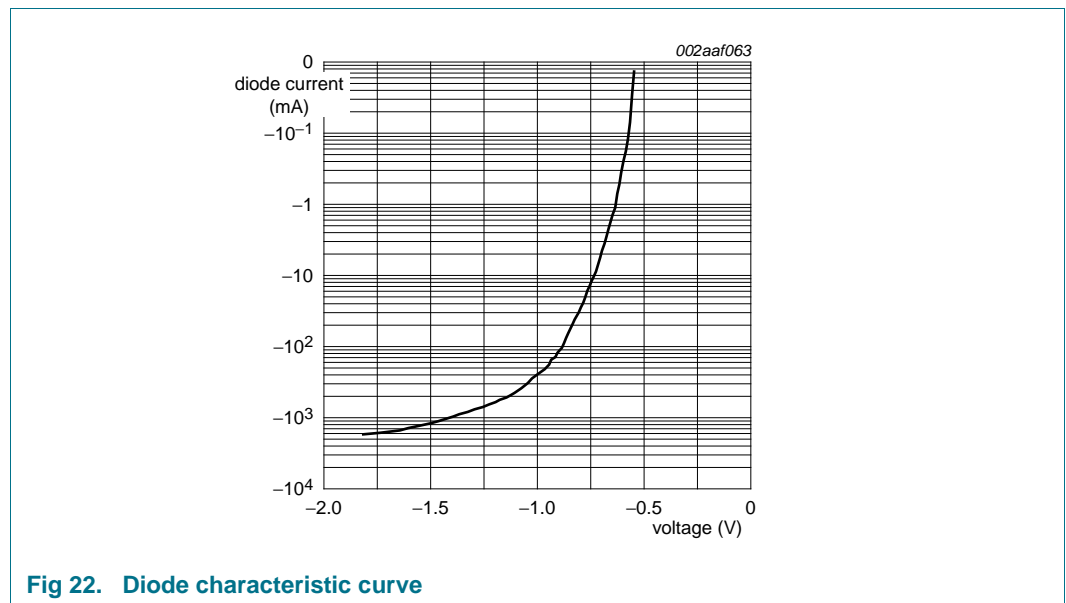

Fig 22. Diode characteristic curve
Figure 22 shows the measured characteristic for one of those diodes inside PCA9600. The plot was made using a curve tracer that applies 50 Hz mains voltage via a series resistor, so the pulse durations are long duration (several milliseconds) and are reaching peaks of over 2 A when more than -1.5 V is applied. The IC becomes very hot during this
For the PCA9600, in specific applications, there will always be transient overshoot and ringing on the wiring that can cause these diodes to conduct. Therefore we designed the IC to withstand those transients and as a part of the qualification procedure we made tests, using DC currents to more than twice the normal bus sink currents, to be sure that the IC was not affected by those currents. For example, the TX/TY and RX/RX pins were tested to at least -80 mA which, from Figure 22, would be more than -0.8 V. The correct functioning of the PCA9600 is not affected even by those large currents. The Absolute Maximum (DC) ratings are not intended to apply to transients but to steady state conditions. This explains why you will never see any problems in practice even if, during transients, more than -0.3 V is applied to the bus interface pins of PCA9600.
Figure 22 "Diode characteristic curve" also explains how the general Absolute Maximum DC specification was selected. The current at 25 °C is near zero at -0.55 V. The PCA9600 is allowed to operate with +125 °C junction and that would cause this diode voltage to decrease by $100 \times 2 \text{ mV} = 200 \text{ mV}$. So for zero current we need to specify -0.35 V and we publish -0.3 V just to have some extra margin.